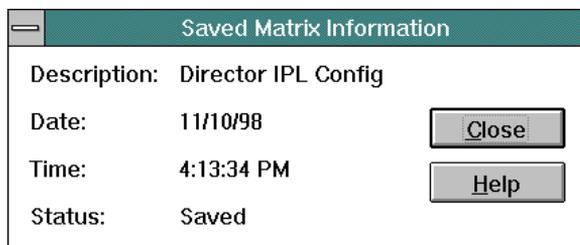

Figure 68. Saved Matrix information Dialog Box
- **Matrix Info** - Highlight a desired matrix name and click the *Matrix Info* button to open the *Saved Matrix Information* dialog box (Figure 68). The dialog box displays information about the selected configuration matrix, and can be retained for viewing information on other matrix files by clicking the desired name in the list box at the *Save Configuration Matrix As* dialog box.